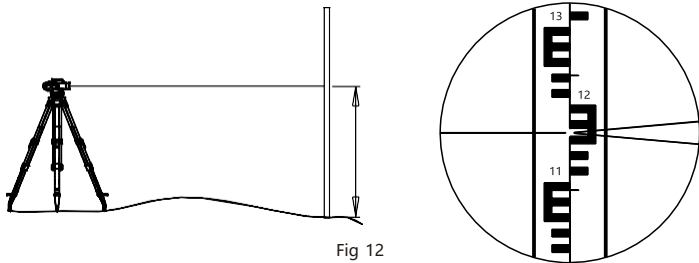

Fig 12
- (3) Read Data as figure 12,  $H=1.165\text{m}$